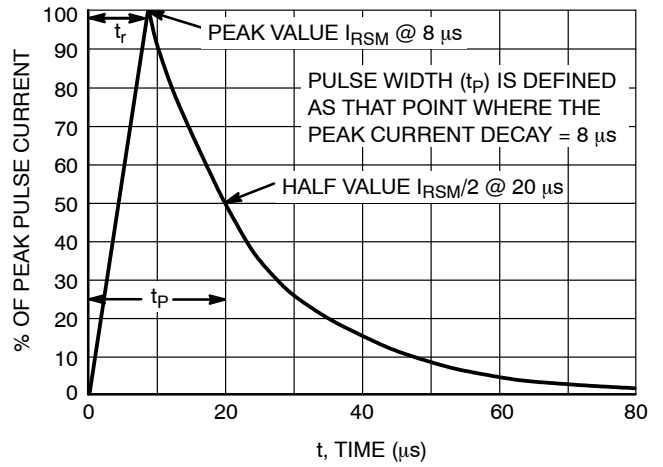

Figure 2. 8  $\times$  20  $\mu s$  Pulse Waveform
1. Non-repetitive current pulse per Figure 2
5. Surge current waveform per Figure 2